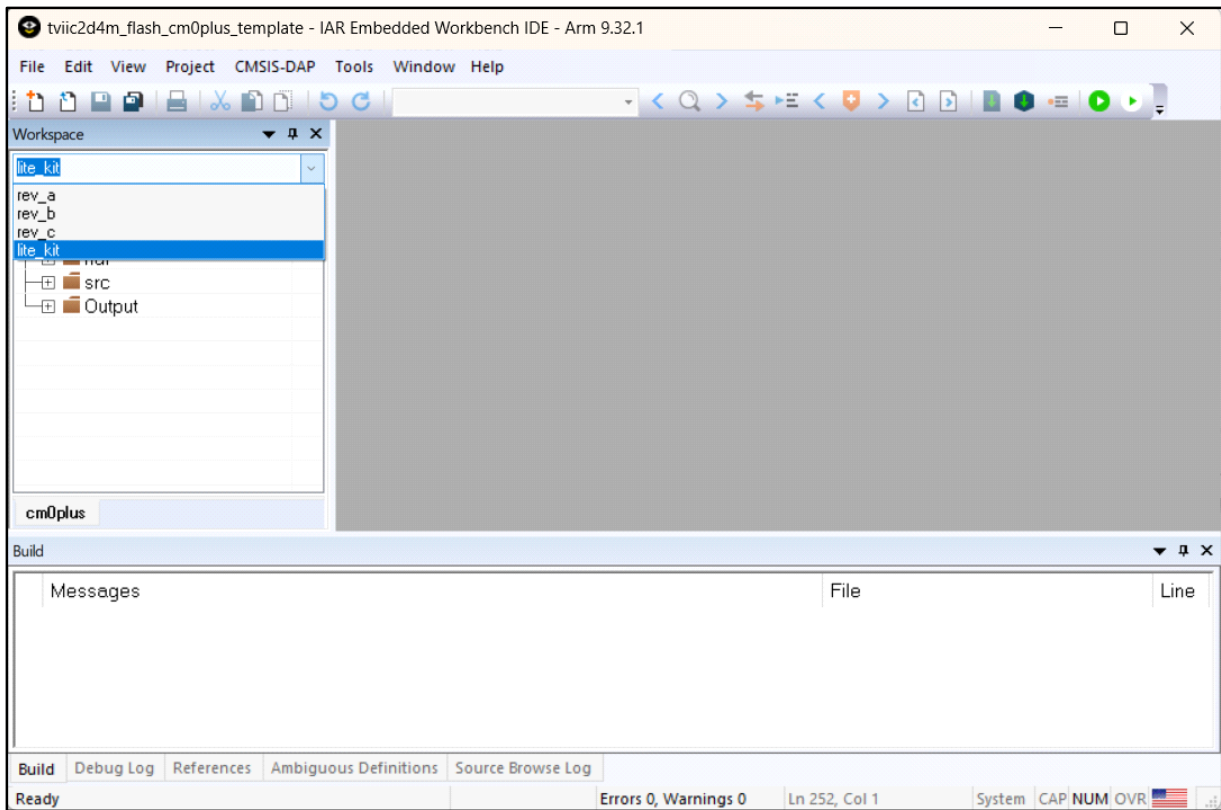

Figure 40 Selecting lite_kit workspace for TRAVEO™ T2G Cluster 4M Lite kit in IAR
2. Select the revision in the workspace tab as "lite_kit" from the drop-down list under Workspace, as shown in Figure 40.